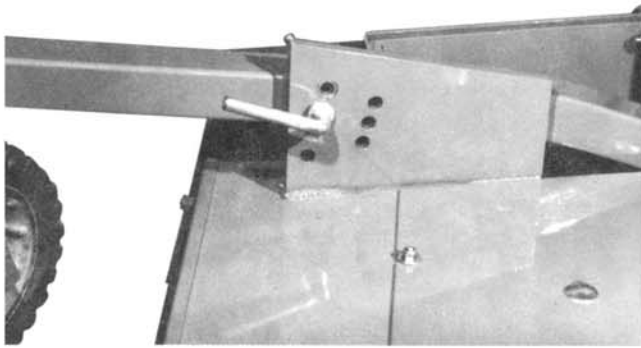

Fig. 6
2. Set the caster wheel supports to the desired cutting height by locating the adjustment bolt in the desired hole of the adjusting flange on the mower deck. See fig. 6.